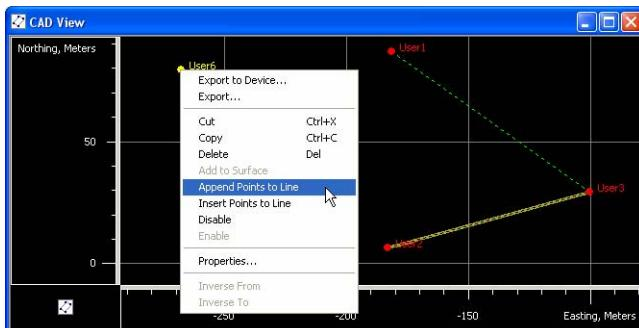

Figure 5-34. Appending Points Using the Pop-up Menu
1. Right-click the desired point in the Cad View and click **Append Points to Line** on the pop-up menu (Figure 5-34 on page 5-32). The pointer will change to indicate that ‘append points’ mode has been activated.